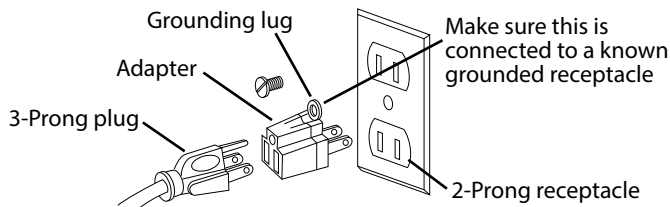

Figure 6 – 2-Prong receptacle with adapter.
- A temporary 3-prong to 2-prong grounding adapter (See Fig. 6) is available for connecting plugs to a two pole outlet if it is properly grounded.